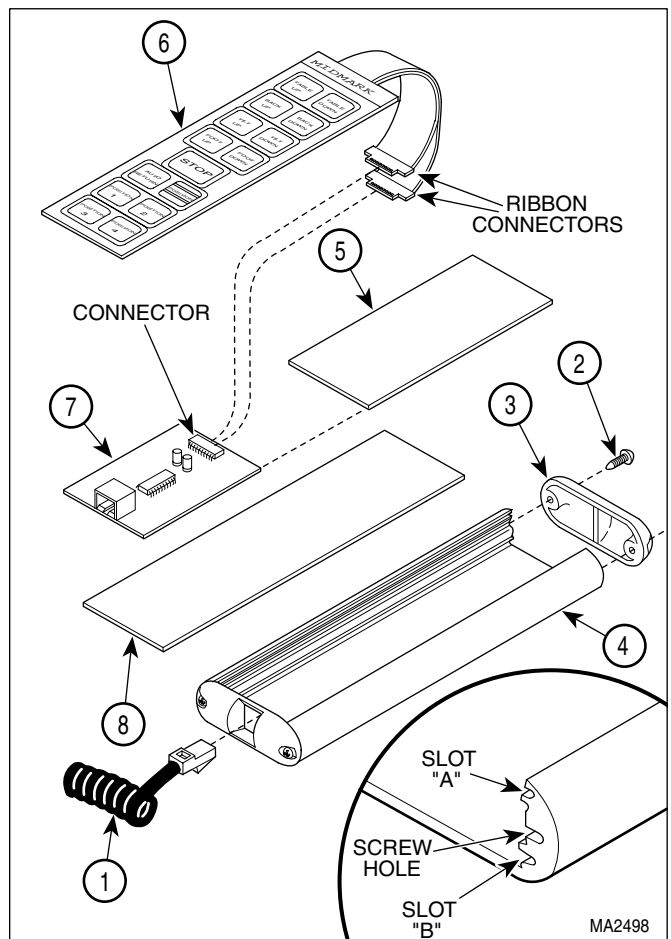

Figure 4-16. Hand Control Panel / Interface Board
- (1) Disconnect coil cord (1, Figure 4-16) from hand control.
- (2) Remove two screws (2) and top end cap (3) from hand control tube (4).
- (3) Remove locating plate (5) from hand control tube (4).